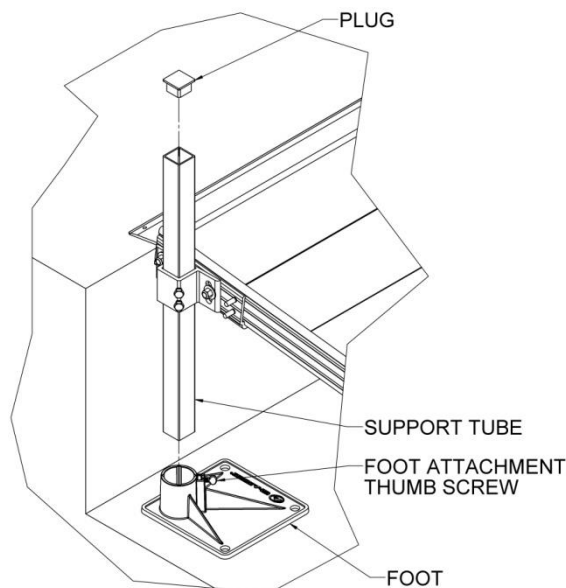

FIG. 6.15
- 6.3.5. Slide support tube into support tube bracket and onto base foot. Level support tube, then tighten 3/8" nylon insert lock nuts to secure support tube bracket (FIG. 6.15). Adjust height as needed and tighten bolts.